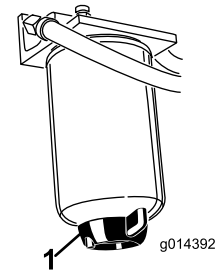

Figure 39
Drain the water or other contaminants from the water separator (Figure 39) daily. Replace the filter canister after every 400 hours of operation.
2. Loosen the drain plug on the bottom of the filter canister (Figure 39).